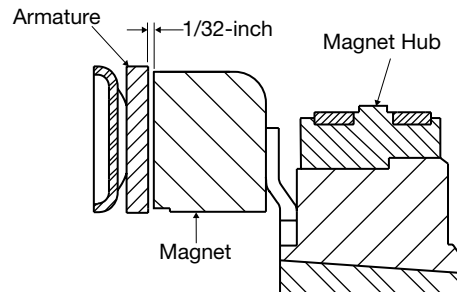

Figure 12
3. If the armature has been secured to the shaft first, then adjust the magnet's position to allow approximately 1/32-inch between the two faces. (Figure 12)
2. If the magnet and magnet hub assembly has been secured to the shaft first, then adjust the armature's position to allow approximately 1/32" between the two faces. (Figure 12)